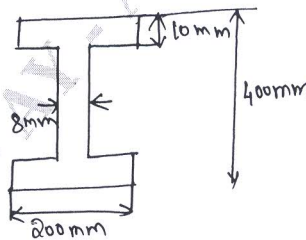

Fig.Q7(b)
b. The cross-section of a beam is as shown in Fig.Q7(b). If the permissible stress is 150 N/mm^2 , find its moment of resistance. Compare it with equivalent section of same area, but as a (i) Square section (ii) Rectangular section with depth twice the width (iii) Circular section.